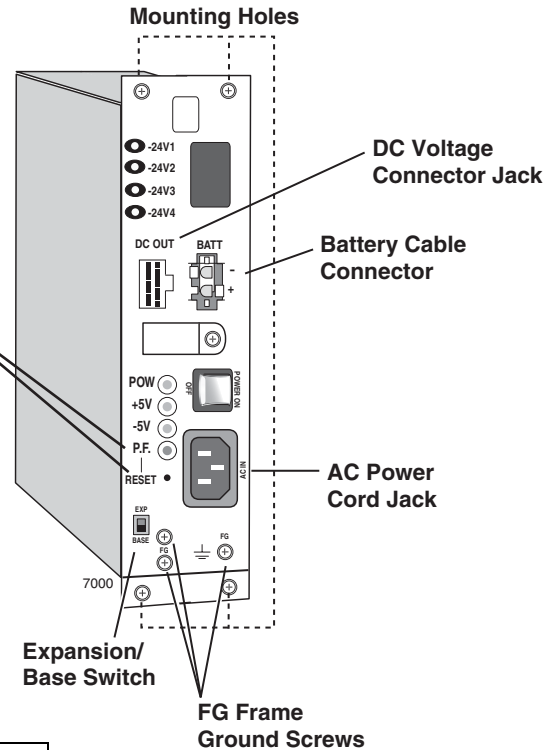

Figure 5-12 Power Supply Unit (BRPSU672A)
2. If installing a standalone Remote Expansion Cabinet, or the first in a stack, set the “BASE/EXP” switch to “BASE” in accordance with Figure 5-12.